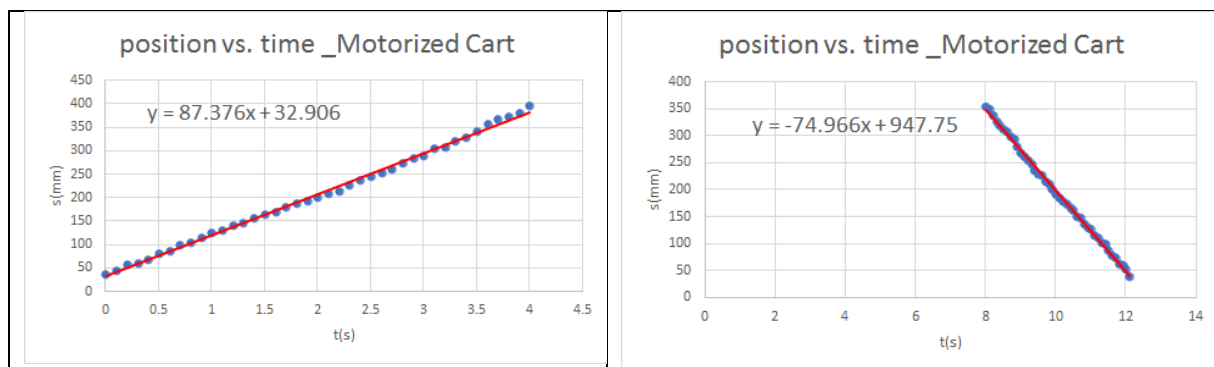
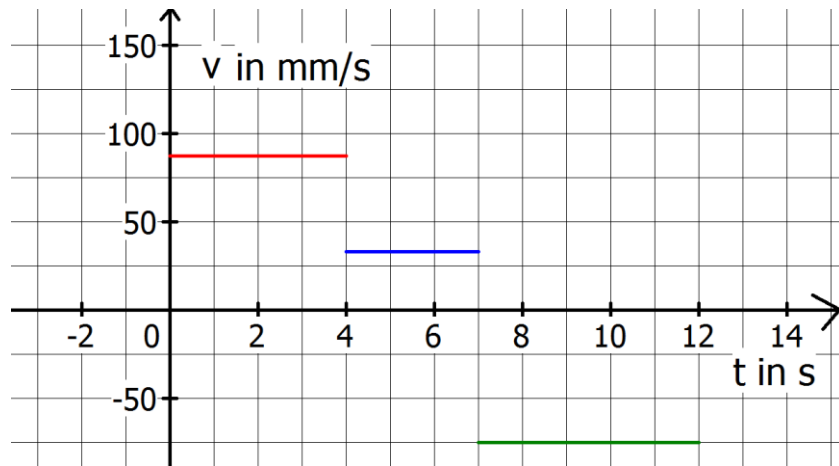

Figure 8. Best Fit Line and Formula for the Cart's motion forward and in reverse.
Figure 9. Simplified velocity vs. time diagram based on the velocity values in the Figure 8.
- In Excel or LibreOffice one can get the slope of the position versus time graph by selecting the Trendline in the scatter chart of the measured data. In the Figure 8. the best fit line and formula are displayed for the Cart moving forward and in reverse.
- Deduce the equation of motion at constant velocity by solving the velocity equation for the displacement and then for the final position. Compare the general formula $s = s_0 + v(t - t_0)$ to the best fit line equation for the forward and in reverse motion in the Figure 8.
- Compare the forward and reverse velocity. Graph the velocity vs. time for the three phases of the motion. Compare your graph with the Figure 9.
- The velocity vs. time graph in the Figure 9. has been drawn based on the calculated values of velocity for each time interval of the multistep motion presented in the Figure 8.